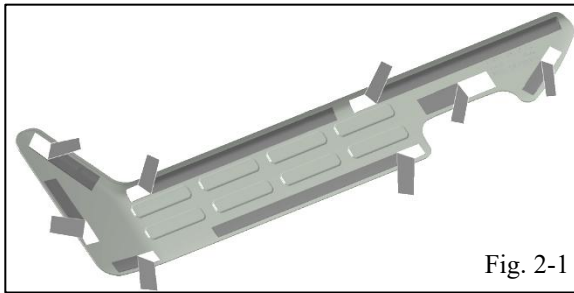

Fig. 2-1
- (a) While carefully holding the Front LH Door Scuff Protector by its edges, starting at the end of part, and making your way around, pull the plastic liner tabs at the ends of the tapes to expose approximately 1" (25mm) of tape. (Fig 2-1)